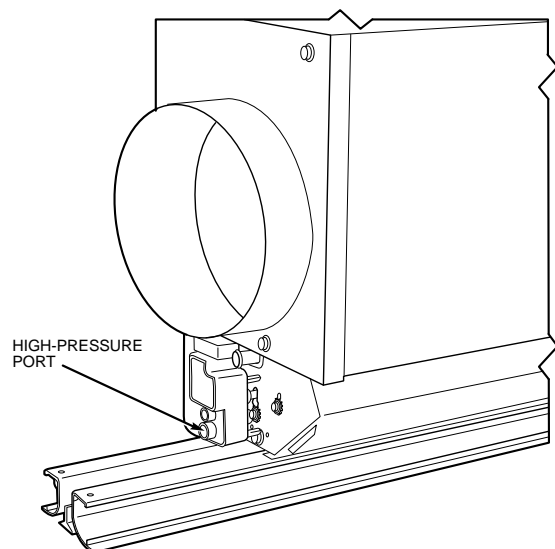

Fig. 7 — Control Filter Installed
6. Moisten the 2 O-rings with water, then push the filter into the unit control block and onto bellows connection until the standoffs rest on the unit end plate. See Fig. 7.